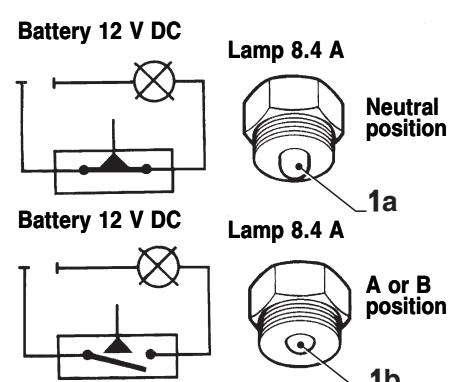

FIG. 5-3
With the pin (item 1a Fig. 5-3) extended you should get a reading, indicating a good switch.
Compressing the pin (item 1b Fig. 5-3) you should have "0" reading,
Connect the neutral safety switch with a light in series to a 12 volt battery. The switch is good when the light goes out when the center pin (item 1b Fig. 5-3) is compressed.